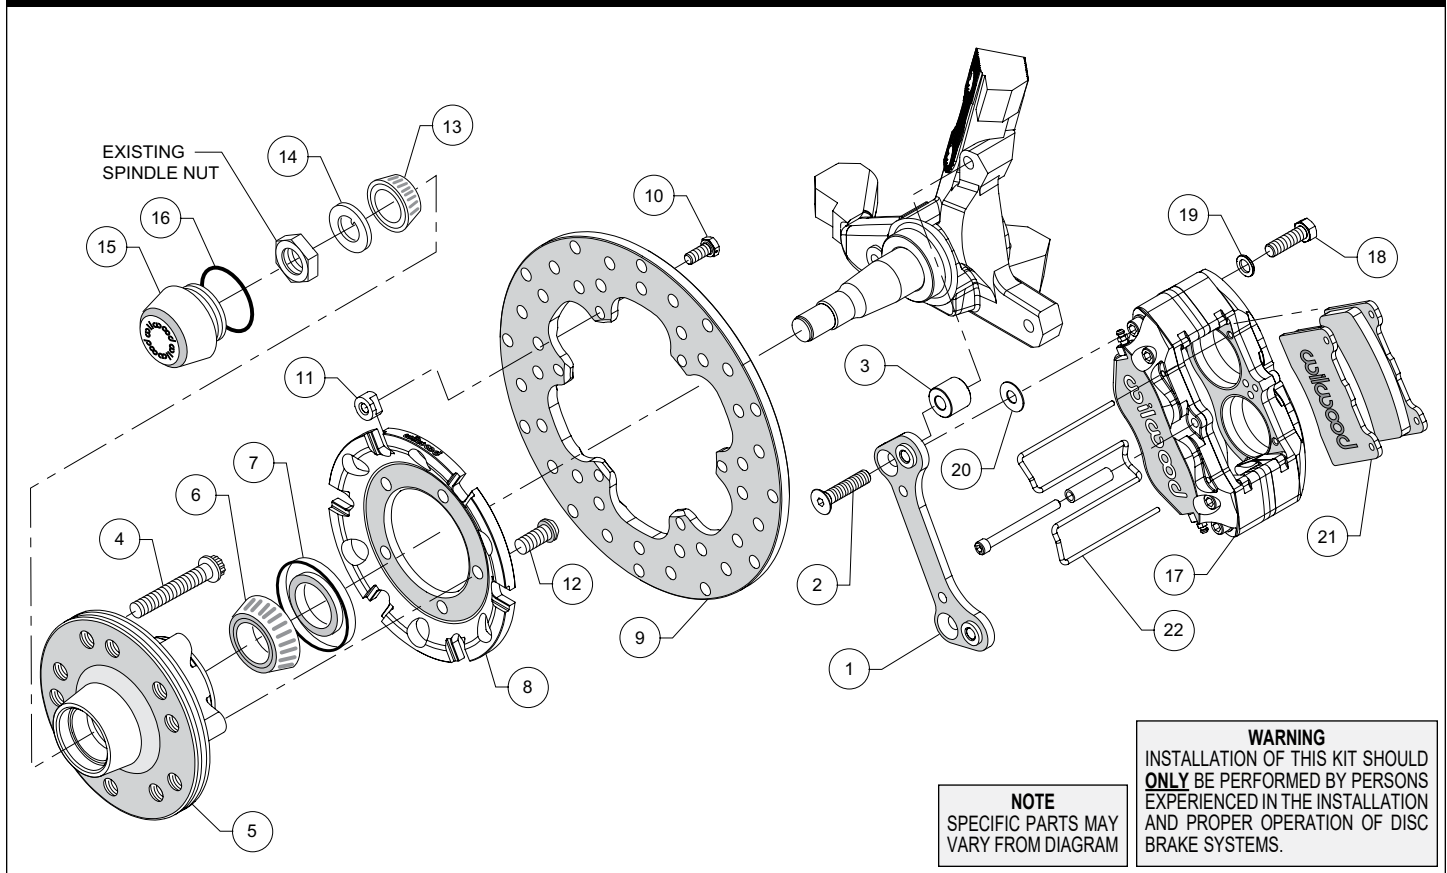
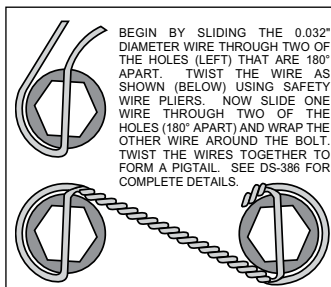
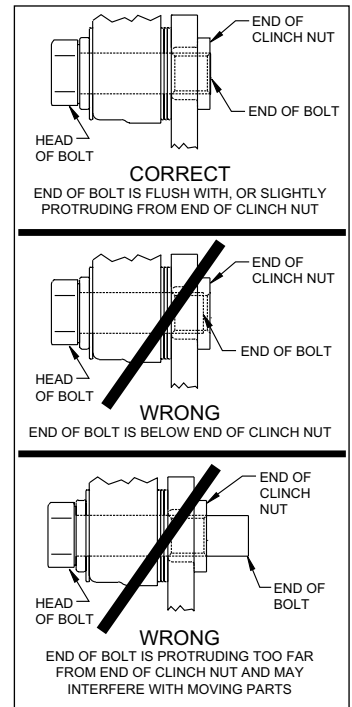

Figure 2. Typical Installation Configuration
Figure 4. Safety Wire Diagram
Figure 5. Clinch Nut Engagement Diagram
NOTE: Numbers in parenthesis refer to the parts list and Figure 2 on the preceding pages.
CAUTION: All mounting bolts must fully engage clinch nuts. Be sure to check that all bolts are either flush or protruding through flanged side of clinch nut after shimming, Figure 5.
- Orient the caliper mounting bracket (1) as shown in Figure 2 and Photo 1. Attach using bolts (2) and spacers (3), Figure 2. Temporarily tighten the mounting bolts. Ensure that the flanged heads of the clinch nuts in the bracket are facing outboard, Photo 1. **NOTE:** The bracket must fit squarely against the mounting points on the spindle. Inspect for interference from casting irregularities, machining ridges, burrs, etc. Remove bolts one at a time, apply red *Loctite*® 271 to threads and torque to 30 ft-lbs.
- Install wheel studs (4) into the hub (5), Photo 2. Torque to 77 ft-lb. **NOTE:** There are two five lug patterns in the hub (5 x 4.50 and 5 x 4.75). Ensure the correct hub stud pattern is being used to fit the wheel application.
- Pack the large inner bearing cone (6) with high temperature disc brake bearing grease (available from your local auto parts store) and install into the backside of the hub (5), Photo 3.
- Install the grease seal (7) by pressing into the backside of the hub (5), flush with the end of the hub, Photo 3.
- Orient the rotor (9) and the rotor adapter (8) as shown in Figure 2 and Photo 4. Attach the rotor to the adapter using bolts (10) and T-nuts (11). Apply red *Loctite*® 271 to the bolt threads and torque to 220 **in-lb** using a criss-cross pattern. Safety wire bolts using standard 0.032 inch diameter stainless steel safety wire as shown in Figure 4. Refer to Wilwood's data sheet DS-386 (available at www.wilwood.com/Pdf/DataSheets/ds386.pdf) for complete safety wire installation instructions.
- Mount the adapter/rotor assembly (8 and 9) to the hub (5) using bolts (12), as shown in Figure 2 and Photo 5. Using an alternating sequence, apply red *Loctite*® 271 to the threads, and torque to 45 ft-lb.
- Pack the small outer bearing cone (13) with high temperature disc brake bearing grease and install into hub (5). Slide the hub/rotor assembly onto the spindle. Secure using spindle washer (14) and OEM spindle nut, Photo 6. Adjust bearings per OEM specifications. Install saved OEM nut lock (if any) and a new cotter pin (not included).
- Screw dust cap (15) into hub (5), Photo 7. Friction created by the o-ring (16) on the dust cap keeps it from unscrewing. **NOTE:** The O.D. of the existing OEM spindle washer may be larger than the I.D. of the dust cap not allowing it to seat against the hub face. Therefore, use the spindle washer (14) supplied with the kit instead of the OEM washer.
•**NOTE:** Please reference the caution statement at the beginning of the assembly instructions. Mount the caliper (17) onto the caliper mounting bracket (1) using bolts (18) and washers (19), as shown in Figure 2. Initially place one .035" thick shim (20) on each bolt between the caliper and the bracket, Photo 8. Temporarily tighten the mounting bolts and view the rotor (9) through the top opening of the caliper. The rotor should be centered in the caliper, Photo 9. If not, adjust by adding or subtracting shims (20) between the bracket and the caliper. Always use the same amount of shims on each of the two mounting bolts. **NOTE:** The end of each bolt must be flush with or slightly protruding from the head of the clinch nut, as shown in Figure 5. If necessary place spare shims (20) between washer (19) and caliper mounting ear to achieve the proper clinch nut engagement. Once the caliper alignment and clinch nut engagement are correct, remove the bolts one at a time, apply red *Loctite*® 271 to bolt threads, and torque to 40 ft-lb. For an added measure of security, the bolts may be safety wired using standard 0.032 inch diameter stainless steel safety wire as shown in Figure 4. Refer to Wilwood's data sheet DS-386 (available at www.wilwood.com/Pdf/DataSheets/ds386.pdf) for complete safety wire installation instructions.
•Install the disc brake pads (21) into the caliper, with the friction material facing the rotor (9), Photo 10, and secure in place using pad retainer clip (22), Photo 11.